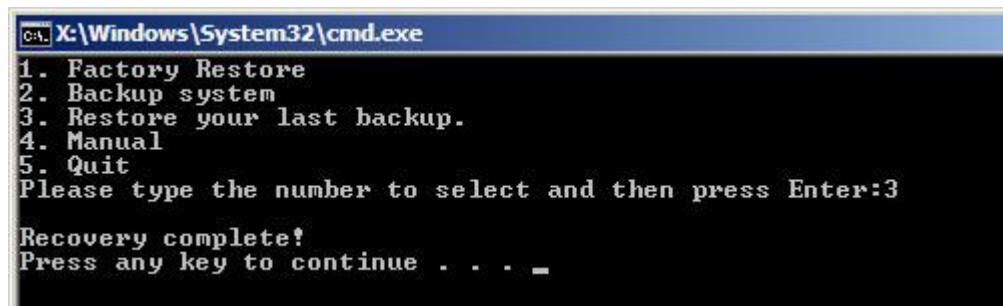

Figure A-32: Restore System Backup Complete Window
Step 14: The screen is shown as in **Figure A-32** when backup recovery is completed.